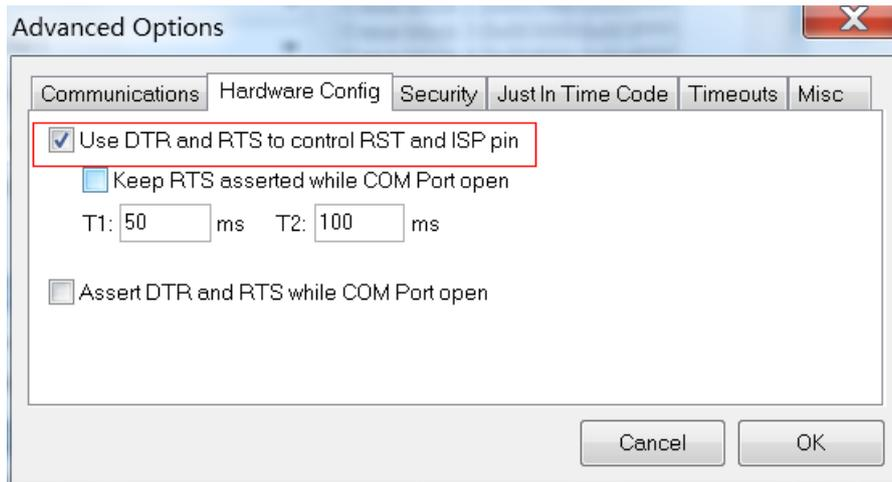

Figure 3-14
(2) Choose “Use DTR and RTS to control RST and ISP pin” in “Hardware Config” in “Advanced Options”, then click “OK”. Refer to figure 3-14: